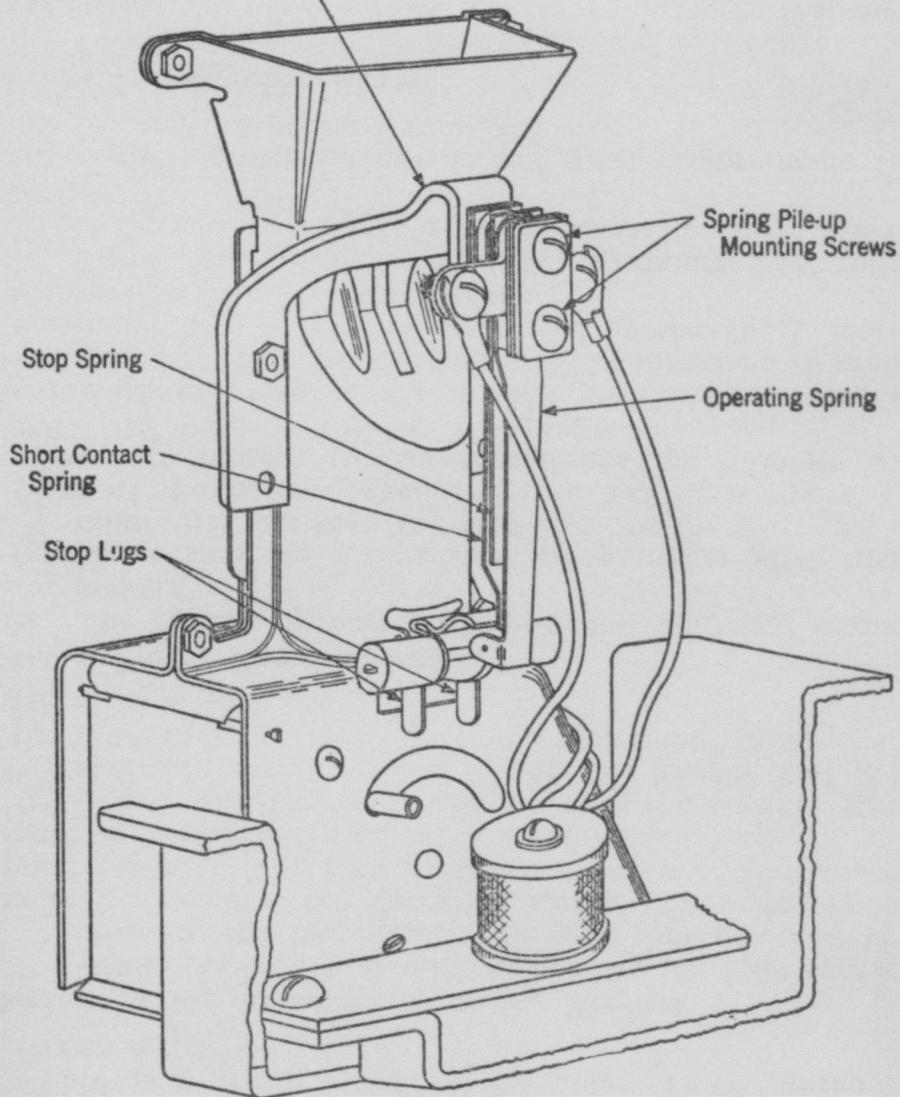

Fig. 10
4. COIN HOPPER (150U AND 150W COIN COLLECTORS ONLY. SEE FIG. 10)